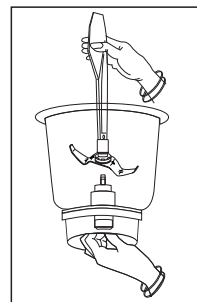

Fig. 6
- In order to clean the blades thoroughly, remove the blades by using the spatula (refer figure 6) to loosen the screw by twisting the dome nut on the blade clockwise, while holding the coupler from under the jar.